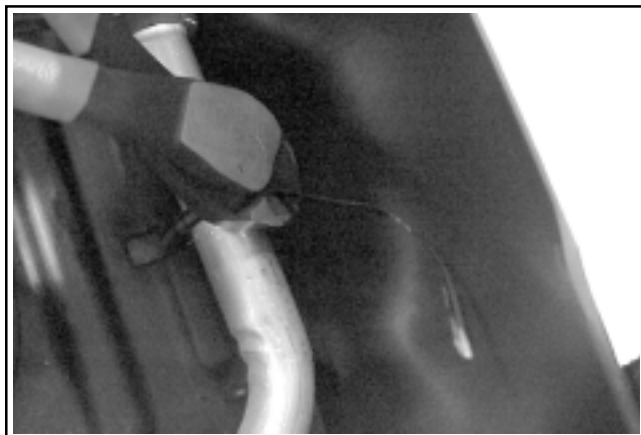

Figure 9-32. Cutting Tie Strap off.
2. Cut the metal tie strap from around the lower hose/tube assembly, secured to the blower housing. See Figure 9-32.